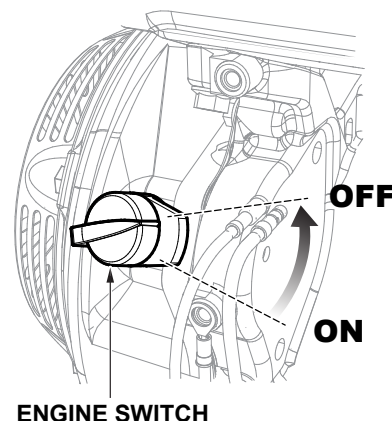

Figure 30. Engine ON/OFF Switch (OFF)
2. After the engine has cooled, place the engine ON/OFF switch in the **OFF** position (Figure 30).